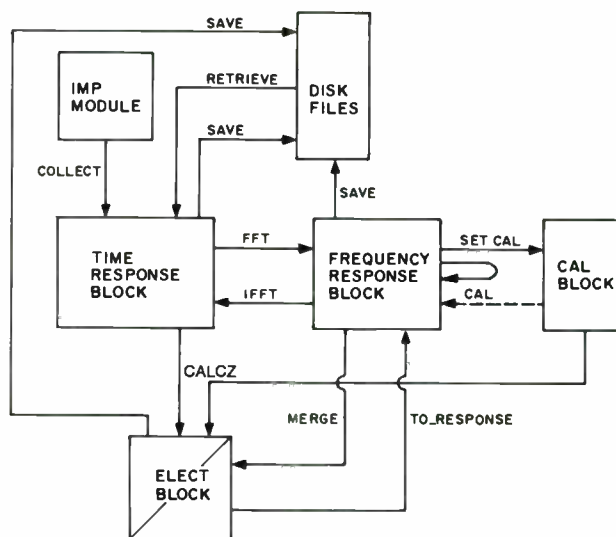

FIGURE 1: Data flow and transformation chart for IMP software.
The manufacturer recommends a box of 100 liters (3.53 ft3) tuned to 31Hz, thus yielding a system that puts  $f_3$  at 31Hz. The 3.43" inch-long vent 3" in diameter translates into an  $h$  of 1.26 from Equation 3. The design point is shown as a black dot on the 31Hz isosynchronic curve in Fig. 1. The flatness of the curve shows that a little change in  $f_3$  can save some volume, although the resulting alignment may not be what you wish.
FIGURE 1: Isosynchronics for  $f_3 = 31$  and 25Hz for the driver described in the example. Superimposed on each is the response curve's peak-to-peak ripple. This results from the indicated values of the tuning ratio  $h$  and box volume  $V_b$ .
Suppose I am a bass junkie and wish to coax more bass from this driver. I will try to design a vented enclosure yielding a 25Hz cut-off frequency. I will put up with a ripple of  $\pm 1$ dB in the response curve. Figure 1 shows the isosynchronic for  $f_3$  at 25Hz and the heavy price I'll pay in box volume for lowering  $f_3$  by 6Hz.
**DATA STRUCTURE.** The program can deal with four main blocks of measured data at any one time. Each of these blocks can be up to 4,096 data points long. Data analysis consists mostly of transforming or editing these blocks and displaying the results. *Figure 1* will help you to follow the data flow.